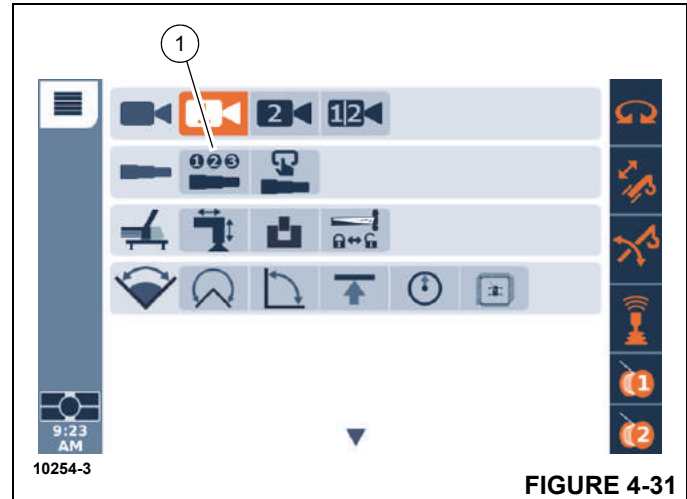

FIGURE 4-31
- Open the Telescoping semi-automation menu (1, Figure 4-31).